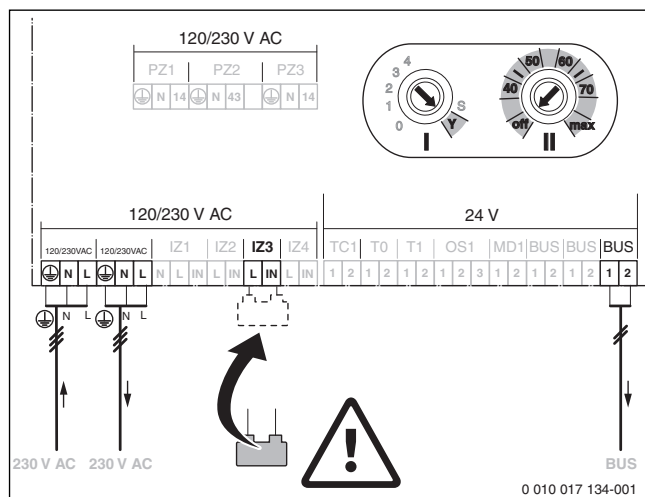

Fig. 20 Connection using the jumper supplied with the Greenstar Wiring Centre
- TR3 Room thermostat (**T**hermostat **R**oom temperature); optional; not shown in Fig. 20
- TF4 Frost stat (**T**hermostat **F**rost protection); optional; not shown in Fig. 20